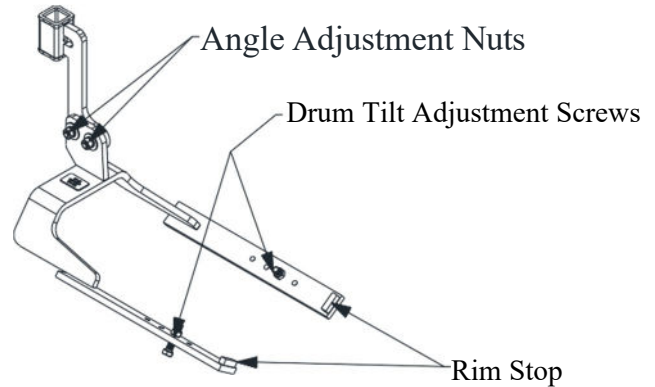

Figure 5
6. Roll the DBD-200 into position and raise the Brake Drum Adapter until it becomes in contact with the brake drum on the vehicle and lock the casters. The Brake Drum Adapter must be inserted far enough under the brake drum, such that the stops engage the lip of the brake drum as shown in Figure 5. The brake drum may need to be broken loose from the wheel end due to corrosion or oxidation. It may be necessary to use a dead blow hammer or a prying tool to free the brake drum from the wheel end.